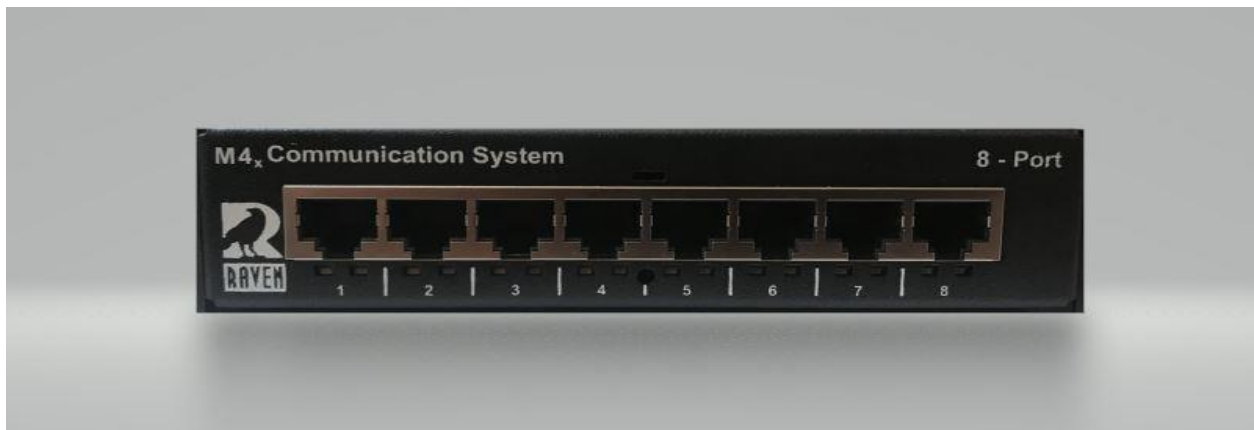
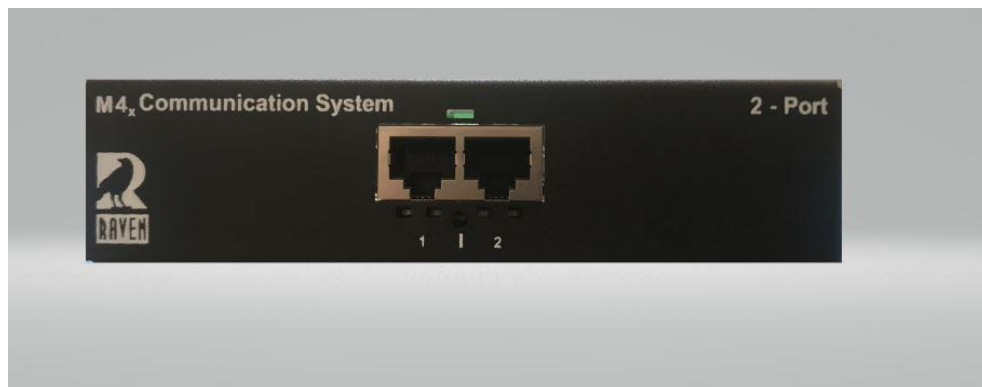

Figure 1-1: Front view of the 8-port Blade.
Figure 1-2: Front view of the 2-port Mini Blade.
To configure a Blade that has a VoIP interface in it, you will need the power supply sent with the unit as well as a CAT 5 ethernet cable that is connected to your network. Figure 1-1 shows the front view of an 8-port Blade and Figure 1-2 shows the front view of a 2-port Mini Blade.
2. Plug in a CAT 5 Ethernet cable that is on your network into Port 7 (8-port Blade) or into Port 1 (2-port Mini Blade). Refer to Figure 1-1 and 1-2 that shows the numbering of the ports. ***If you have multiple new blades to configure, connect only one at a time since it has the same static IP of 192.168.50.65***